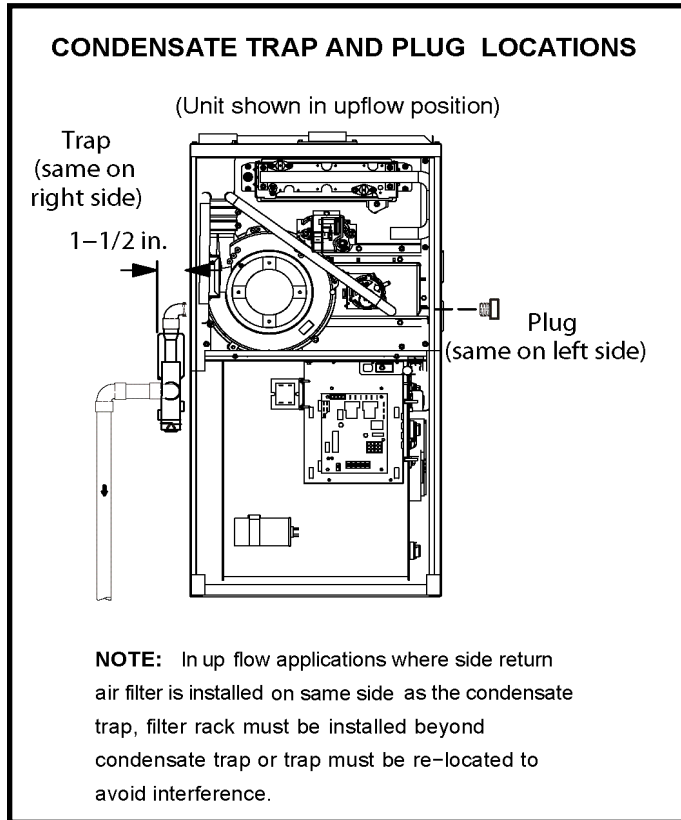
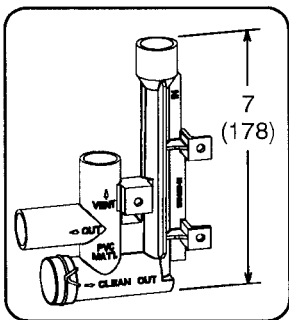

Figure 50
Figure 57
This unit is designed for either right or left side exit of condensate piping in upflow applications. In horizontal applications, the condensate trap must extend below the unit. An 8" service clearance is required for the condensate trap. Refer to Figure 50 for condensate trap locations. Figure 57 shows trap assembly using 1/2" PVC or 3/4" PVC.
2. Use a large flat head screw driver or a 1/2" drive socket extension and remove plug (Figure 50) from the cold end header box at the appropriate location on the side of the unit. Install provided 3/4 NPT street elbow fitting into cold end header box. Use Teflon tape or appropriate pipe dope.
3. Install the cap over the clean out opening at the base of the trap. Secure with clamp. See Figure 57.
4. Install drain trap using appropriate PVC fittings, glue all joints. Glue the provided drain trap as shown in Figure 57. Route the condensate line to an open drain. *Condensate line must maintain a 1/4" downward slope from the furnace to the drain.*